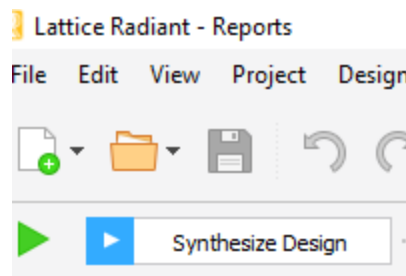

Figure 3.3. Synthesizing Design
5. Upon generating your desired design, you can synthesize it by pressing **Synthesize Design** located on the top left corner of the screen, as shown in Figure 3.3.